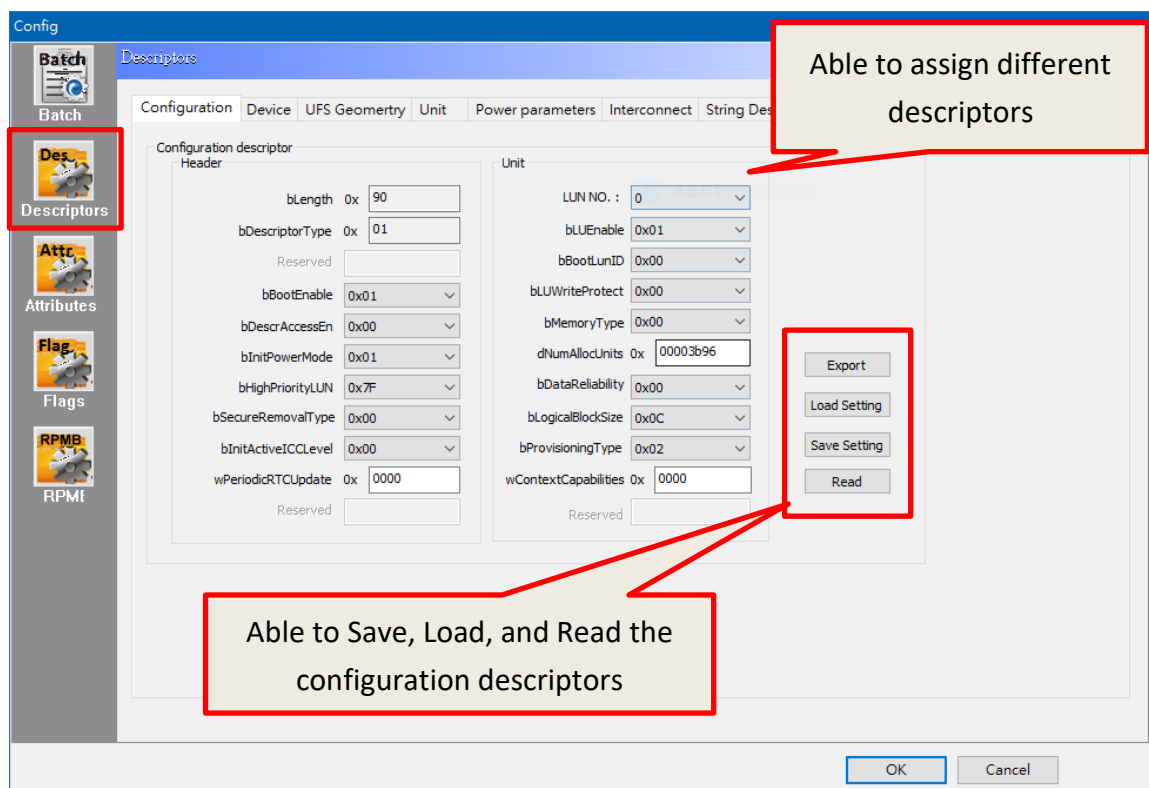

Fig. 5-19
- **Descriptors:** It provides all UFS descriptor settings. Use **Write Descriptor** to write; test read is also available on this page (Fig 5-19).